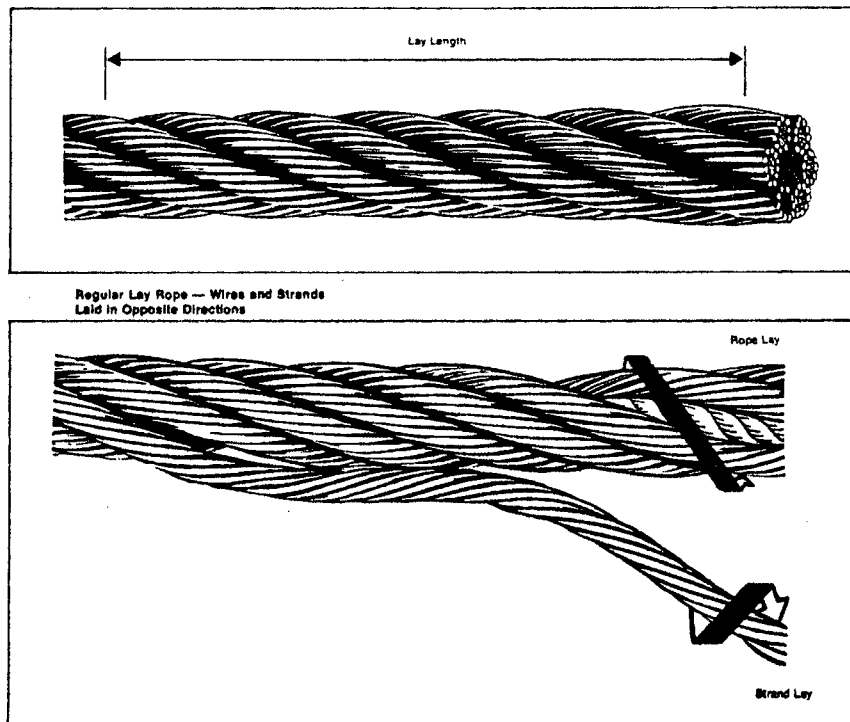

Fig. 2-7 Length of rope lay
- (6) **Special construction:** A number of developments in wire rope construction have produced multiple core non-rotating wires and other special purpose constructions. Their advantages and weaknesses vary. Such ropes shall only be used when specified in the vessel's plans.
9. **Lay Length.** A rope lay length, an important dimension in inspection, is the distance it takes one strand to go completely around the rope (See **Figure 2-7**). This is easily determined, if the number of strands are known. Start at one strand and count the strands down the rope until the number equals the number of strands. The last strand will be the same one as the first. The distance between the first and last is the lay length